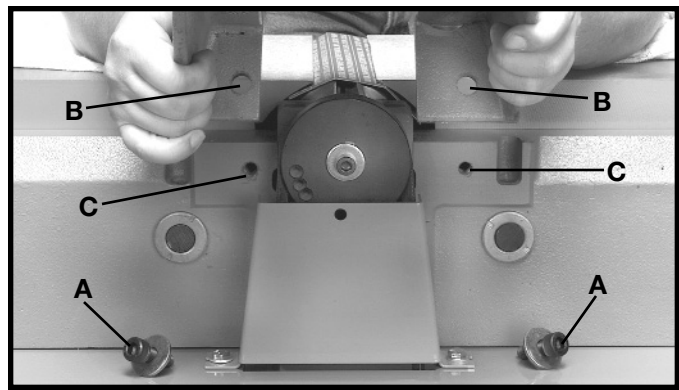
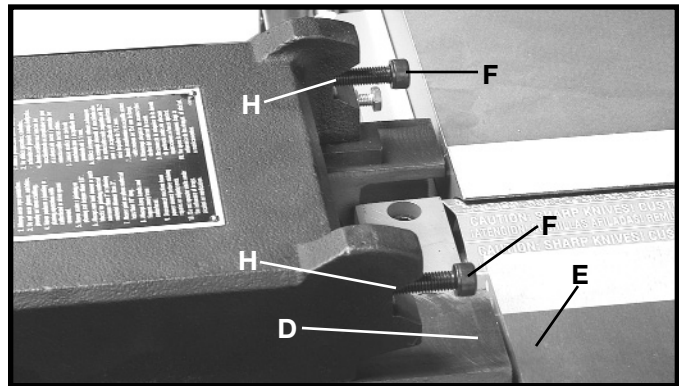
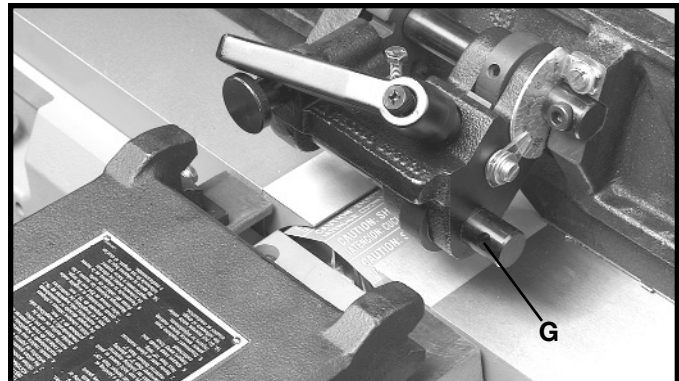

Fig. 11
Fig. 12
Fig. 13
1. Remove the two M10x1.5x30mm hex socket head screws (A) Fig. 11, and 10mm flat washers from the back of the jointer base at location (C).
2. Align the two holes (B) Fig. 11, in the fence carriage assembly, with the two tapped holes (C) in the back of the jointer base. Insert the M10x1.5x30mm hex socket head screw with a 10mm flat washer, through the hole in the fence carriage assembly and thread the screw into the tapped hole in the back of the Jointer base. Repeat this process for the remaining hole in the fence carriage assembly and the tapped hole in the back of the Jointer base. **NOTE: THE TOP SURFACE (D) FIG. 12, OF THE FENCE CARRIAGE ASSEMBLY MUST BE LEVEL WITH THE TOP SURFACE (E) OF THE OUTFEED TABLE.** Once the fence carriage assembly is level with the outfeed table, tighten the two screws (A) Fig. 11 securely with an 8mm hex wrench.
1. Remove the two M8x1.25x30mm hex socket head screws (F) Fig. 12.
2. Align the two holes, one of which is shown at (G) Fig. 13, in the fence with the two holes (H) Fig. 12, in the fence carriage assembly. Insert the screw through the hole in the fence and thread the screw into the tapped hole in the fence carriage assembly and tighten securely with a 6mm hex wrench. Repeat this process for the remaining hole in the fence and fence carriage assembly.